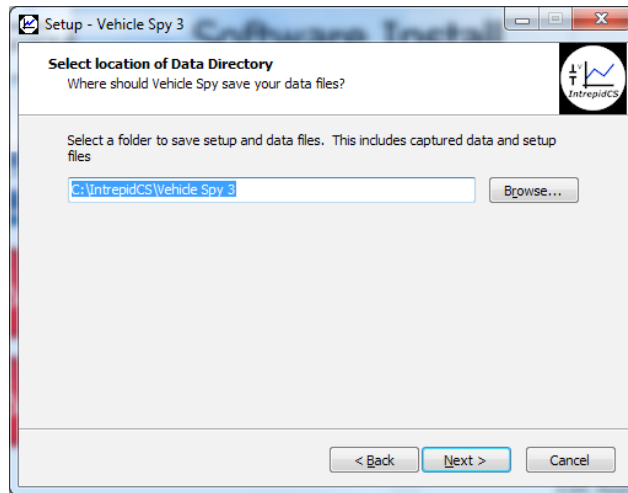

Figure 8: Selecting the Data Directory Location.
8. **Select Data Directory Location:** Next, choose where you want Vehicle Spy 3 to store its data files. We recommend sticking with the provided default, **C:\IntrepidCS\Vehicle Spy 3** (Figure 8). Click **Next >** to continue.